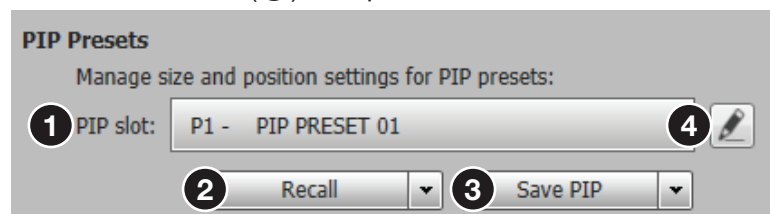

Figure 61. Saving or Recalling a PIP Preset
1. Click the **PIP slot** drop-down menu (see figure 61, ❶) and select the desired slot.
2. Click **Save PIP** (❸). The preset is saved for later recall.